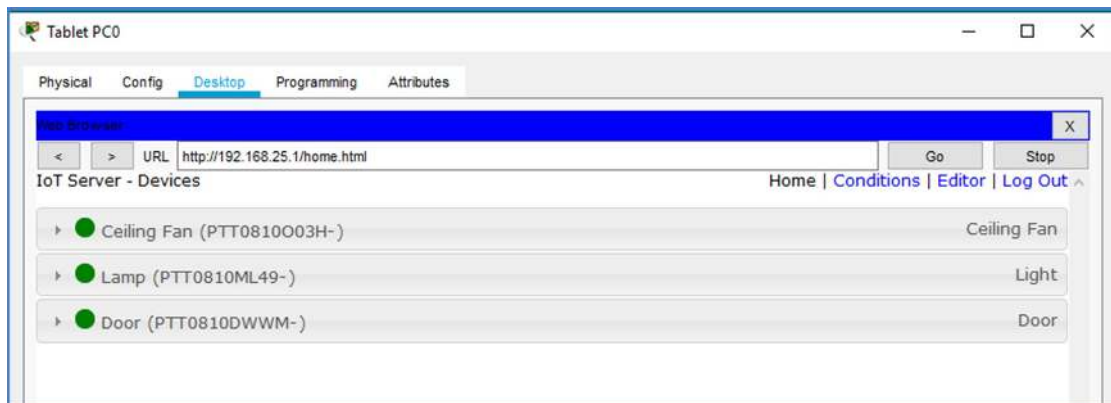

Figure 8.12: Home Gateway Server Showing All Registered IoT Devices
- After a brief moment, you should see the **Ceiling Fan**, **Door**, and **Lamp** listed under the *IoT Server – Devices* section, indicating successful registration (Figure 8.12).